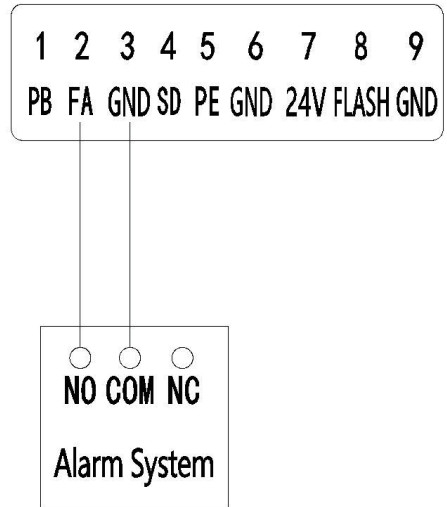

Figure 12
4. Connect to your fire alarm system through the FA interface. When your alarm system is turned on, the door will be forced to open. Any other control and remote control will be invalid. After the alarm is over, the control will be restored. (Fig. 12)